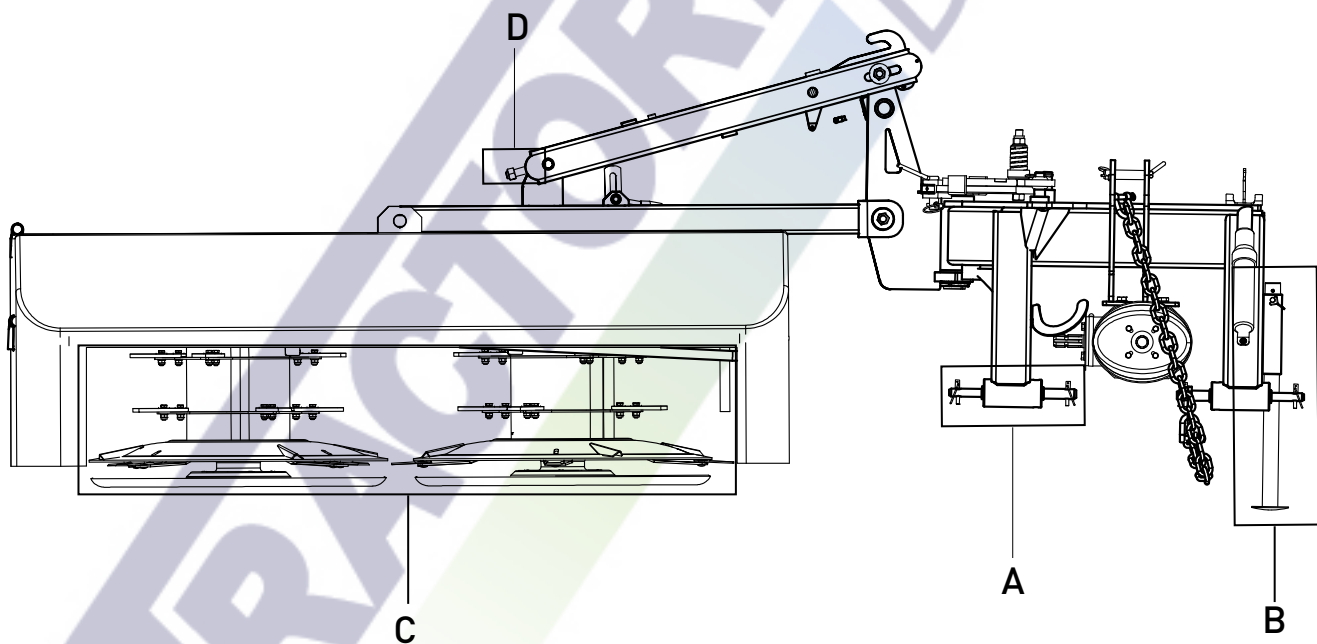

Figure 1 Sarracenia 180.
- In order to reduce the load of the machine on the ground and to be parallel to the ground adjust spring tension. **(Point D Figure1).**
2. Connect the lifting bars of the tractor to the shear pins internally or externally at your convenience. **(Point A Figure 1)**
3. Lift the stand of the machine. **(Point B Figure 1)**
4. Connect the third point to the upper hitch link and adjust length so that the mower is parallel to the ground. **(Point C Figure 1)**